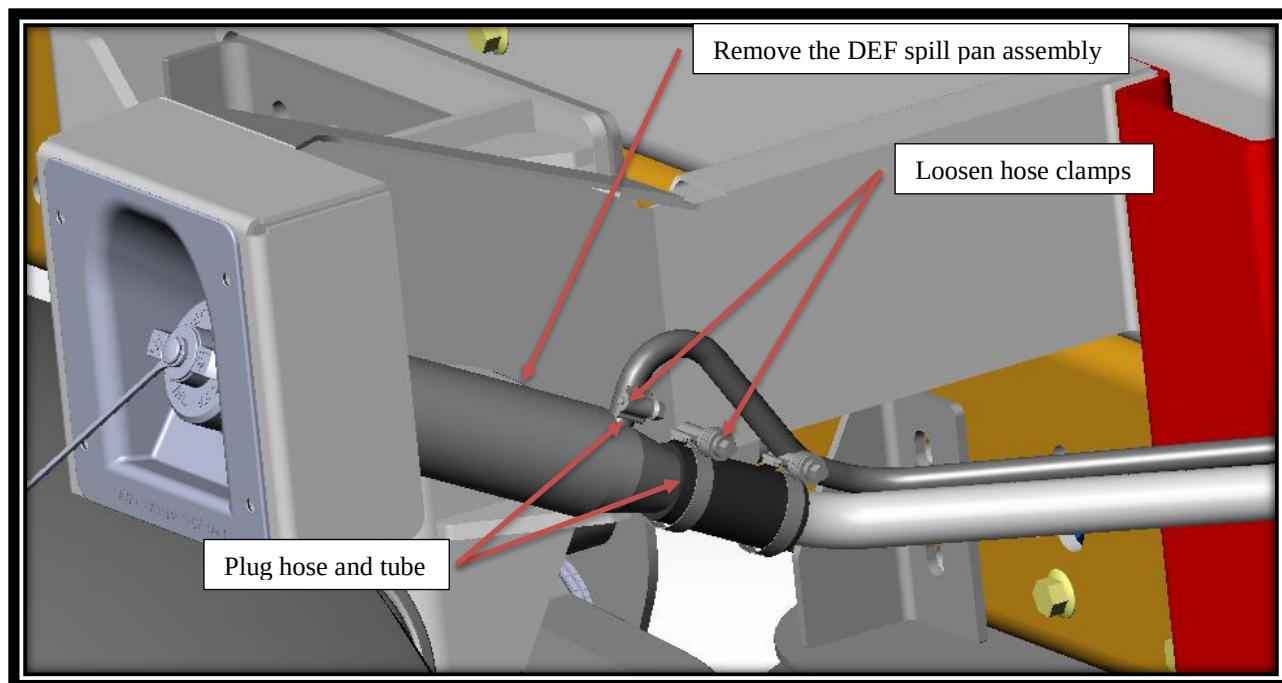

FIG. 5-1
7. Loosen hose clamps holding DEF spill pan assembly and vent hose. Retain hose clamps for reuse. Remove DEF spill pan assembly. Plug vent hose and DEF fill tube to prevent debris from entering DEF system. Refer to FIG 5-1.